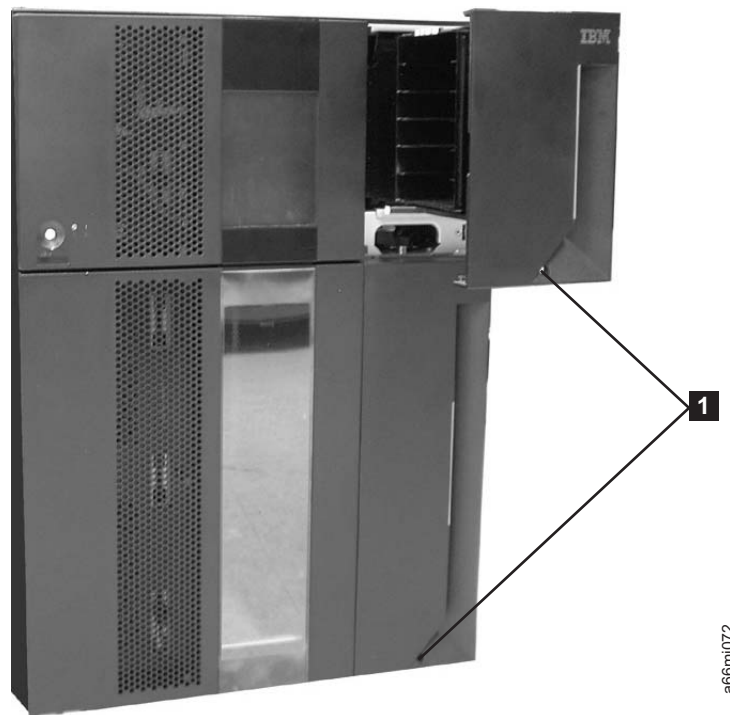

Figure 12-14. Access holes for manually unlocking I/O Station doors
There are 2 styles of I/O Station Lock mechanisms. The early style uses a T10 Torx wrench to rotate the lock mechanism. The new style has a large push-button type mechanism behind the hole (**1** in Figure 12-14) in the I/O station door.
1. Insert a T10 Torx wrench in the hole (**1** in Figure 12-14) located on the front of the I/O Station door of the library module you wish to open.
1. Insert any straight tool (screwdriver, Torx wrench, etc.) into the hole (**1** in Figure 12-14) in the front cover of the I/O station.